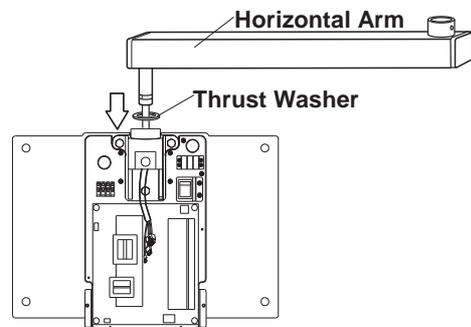

Fig.3-5 Horizontal Arm Installation-1
1. Place a thrust washer over the hole on top of the arm mounting bracket. **(Fig.3-5)**
Insert the cable of horizontal arm into the hole, and mount to the arm mounting bracket, as shown in **Fig.3-5**.